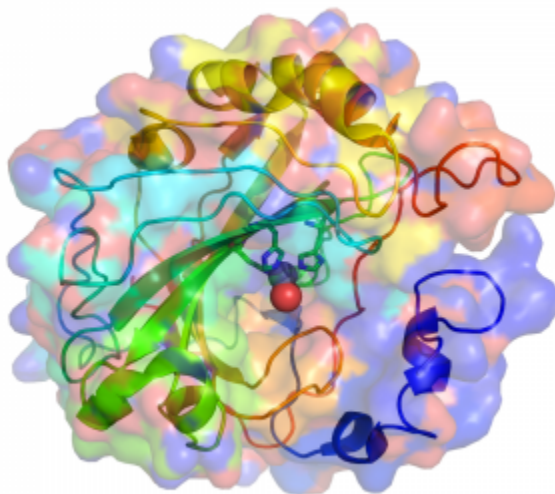

Fig. 1.3. A global view of HCAII from PDB 2ILI. Note how obnoxious the color scheme is.
- Find in the sequence the Zn-coordinating histidines (H): H94, H96 and H119 (you could also select them with the following command 'sele resi 94+96+119'), and display them in stick.
- Now, play around with the color scheme. If you use the color as it is now, as shown in Fig 1.3, it is very difficult for the viewer to see what is important in the figure. For your lab reports, you want to think about the story you want to tell with this figure, and how to draw the viewer's attention to the important parts.